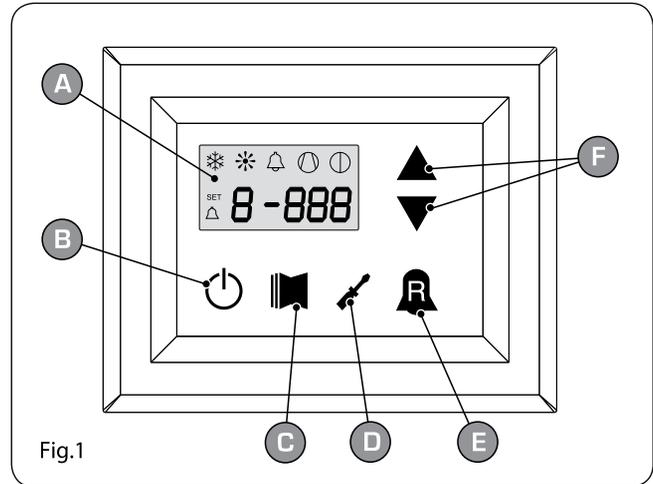

Fig.1
- **READINGS menu (key (C) Fig.1)**
- **SETTINGS menu (key (D) Fig.1)**
- **ALARM log (key (E) Fig.1)**
User interface (Fig.1)